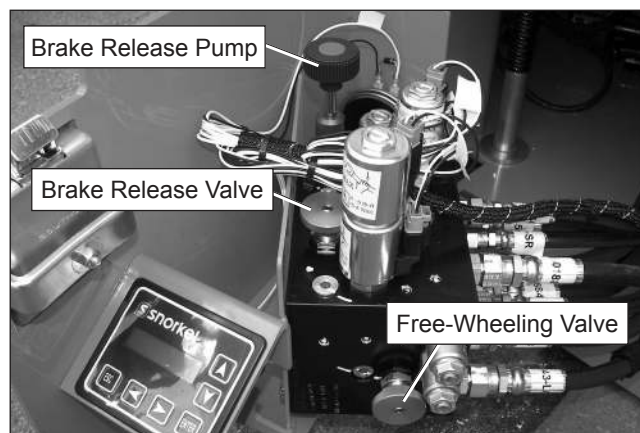

Figure 6 – Hydraulic Tray
1. Unlatch and swing out the control valve tray on the right side of the machine. The brake release valve and brake release pump are located on the top of the hydraulic manifold. The free-wheeling valve is on the side of the valve (refer to Figure 6).